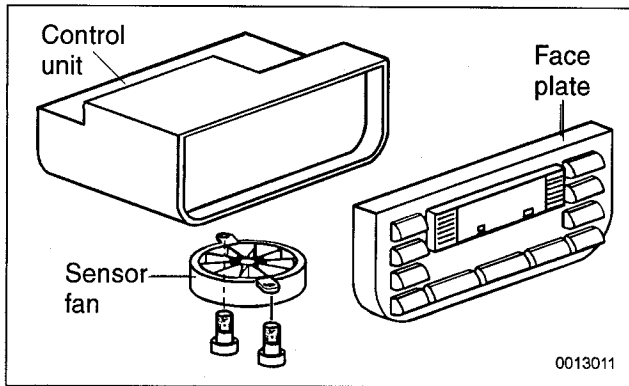

Fig. 25. Digital display A/C control head components.
The A/C control module for cars with the digital display is mounted on the back of the control head. See Fig. 25.
3. Digital display models: Disconnect electrical harness connector from control head housing. Remove screws holding sensor fan to bottom of control module and remove. Refer to Fig. 25.